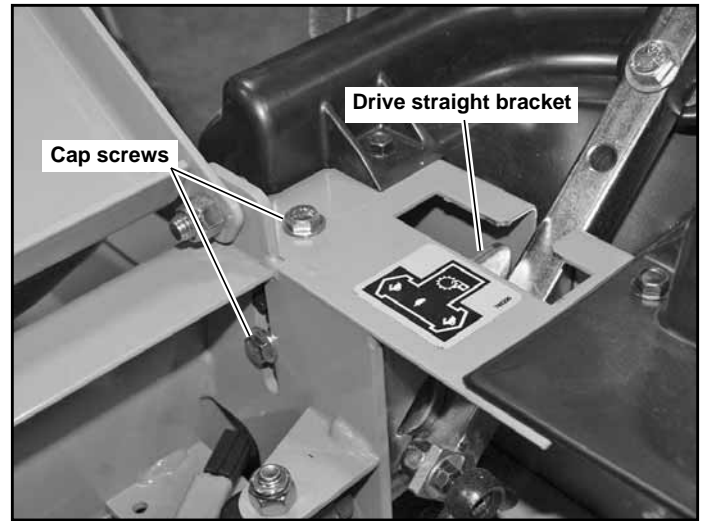

Figure 4-8
8. Loosen the cap screw under the seat platform on the side which is rotating too fast. Tighten the cap screw on the top of the steering cover to adjust the drive straight bracket up to stop the steering control lever sooner. Repeat this procedure until both drive wheels rotate at the same speed. Figure 4-8